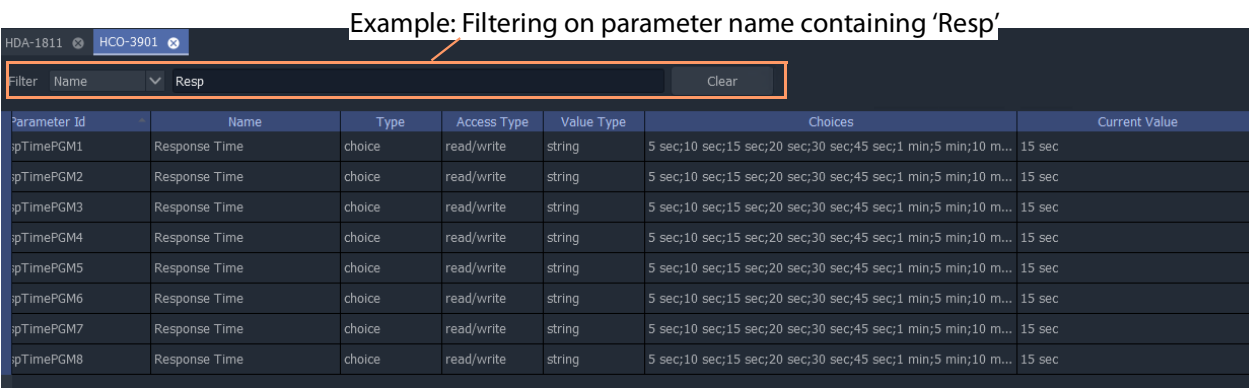

Fig. 3-15: Example Filtered Card Parameters
- 3 Use the filter controls to restrict the shown listed items. See Figure 3-15.